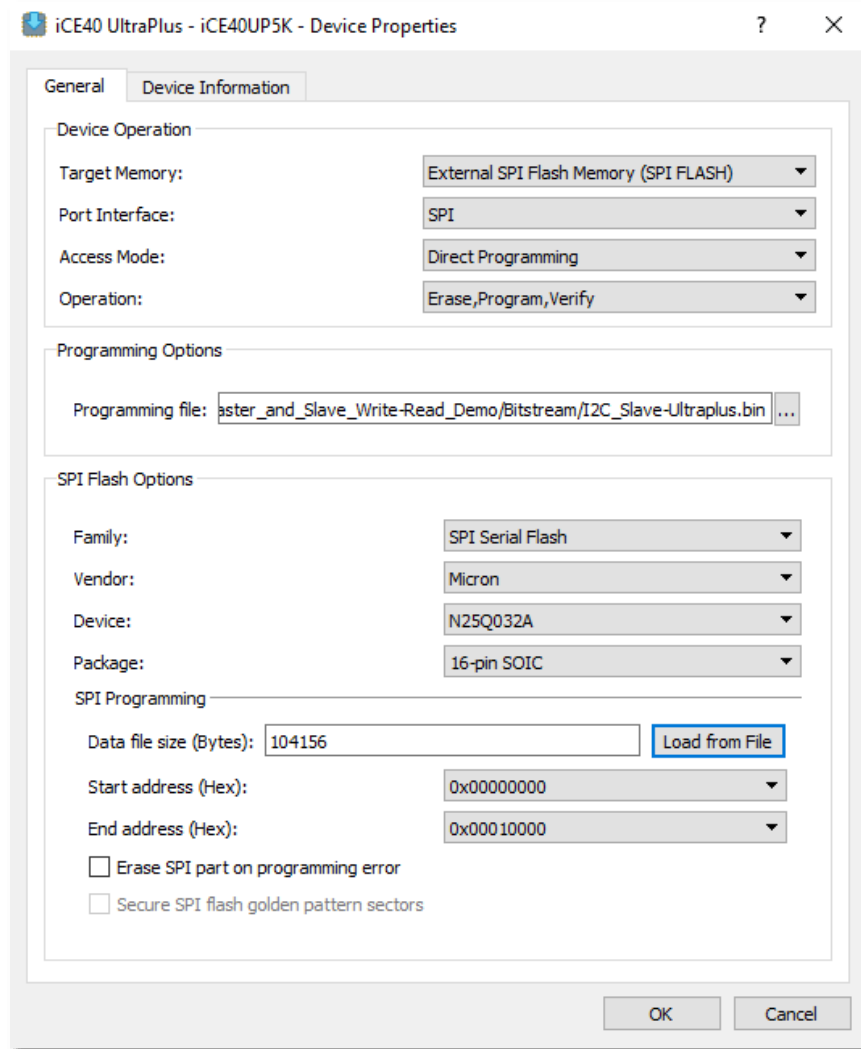

Figure 5.7. Device Properties
- **SPI Flash Options** – Select the correct Flash chip as shown in Figure 5.7.